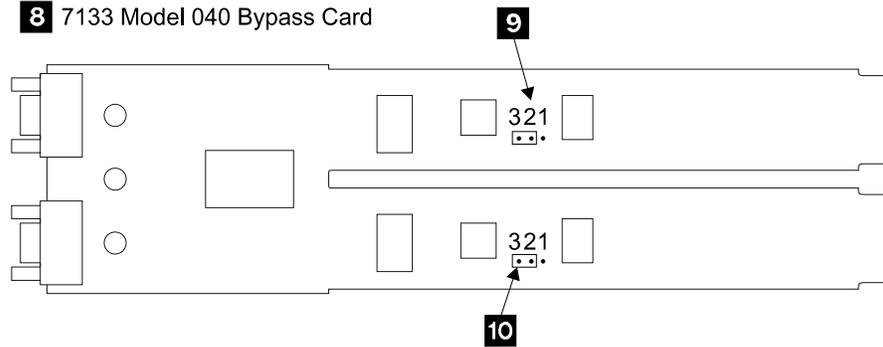

Figure 56. SSA DASD Model 020 and 040 Drawer Bypass Card Jumper Settings (S007737p)
5. Verify that the jumpers on the bypass card you are replacing are set correctly, see Figure 56 on page 47: